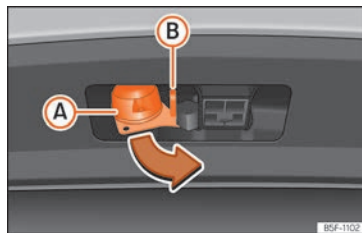

Fig. 263 Turn the 13-pin connector.
- Grip the 13-pin connector at area **A** and remove it in the direction of the arrow **>>> Fig. 263**.
- Grip the 13-pin connector at area **A** and insert it in the opposite direction to the arrow **>>> Fig. 263**.
The safety lug **(B)** **>>> Fig. 263** is used to hook up the trailer's retainer cable.